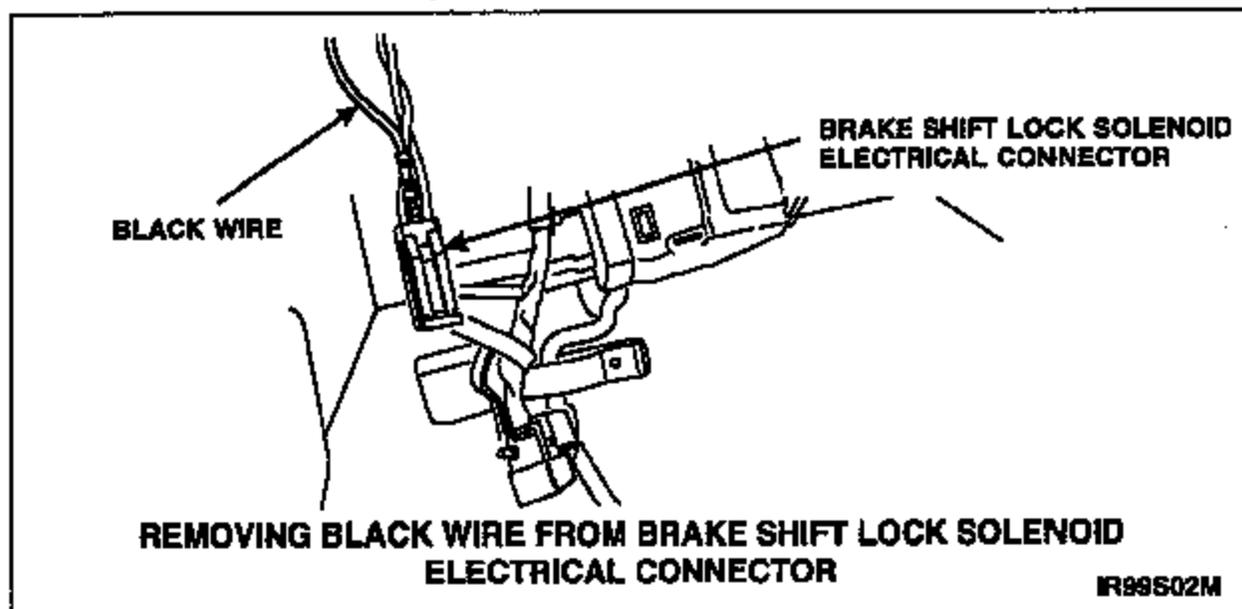

FIGURE 13
17. Remove black wire, circuit 57, from center terminal of brake shift lock solenoid electrical connector. See Figure 13.